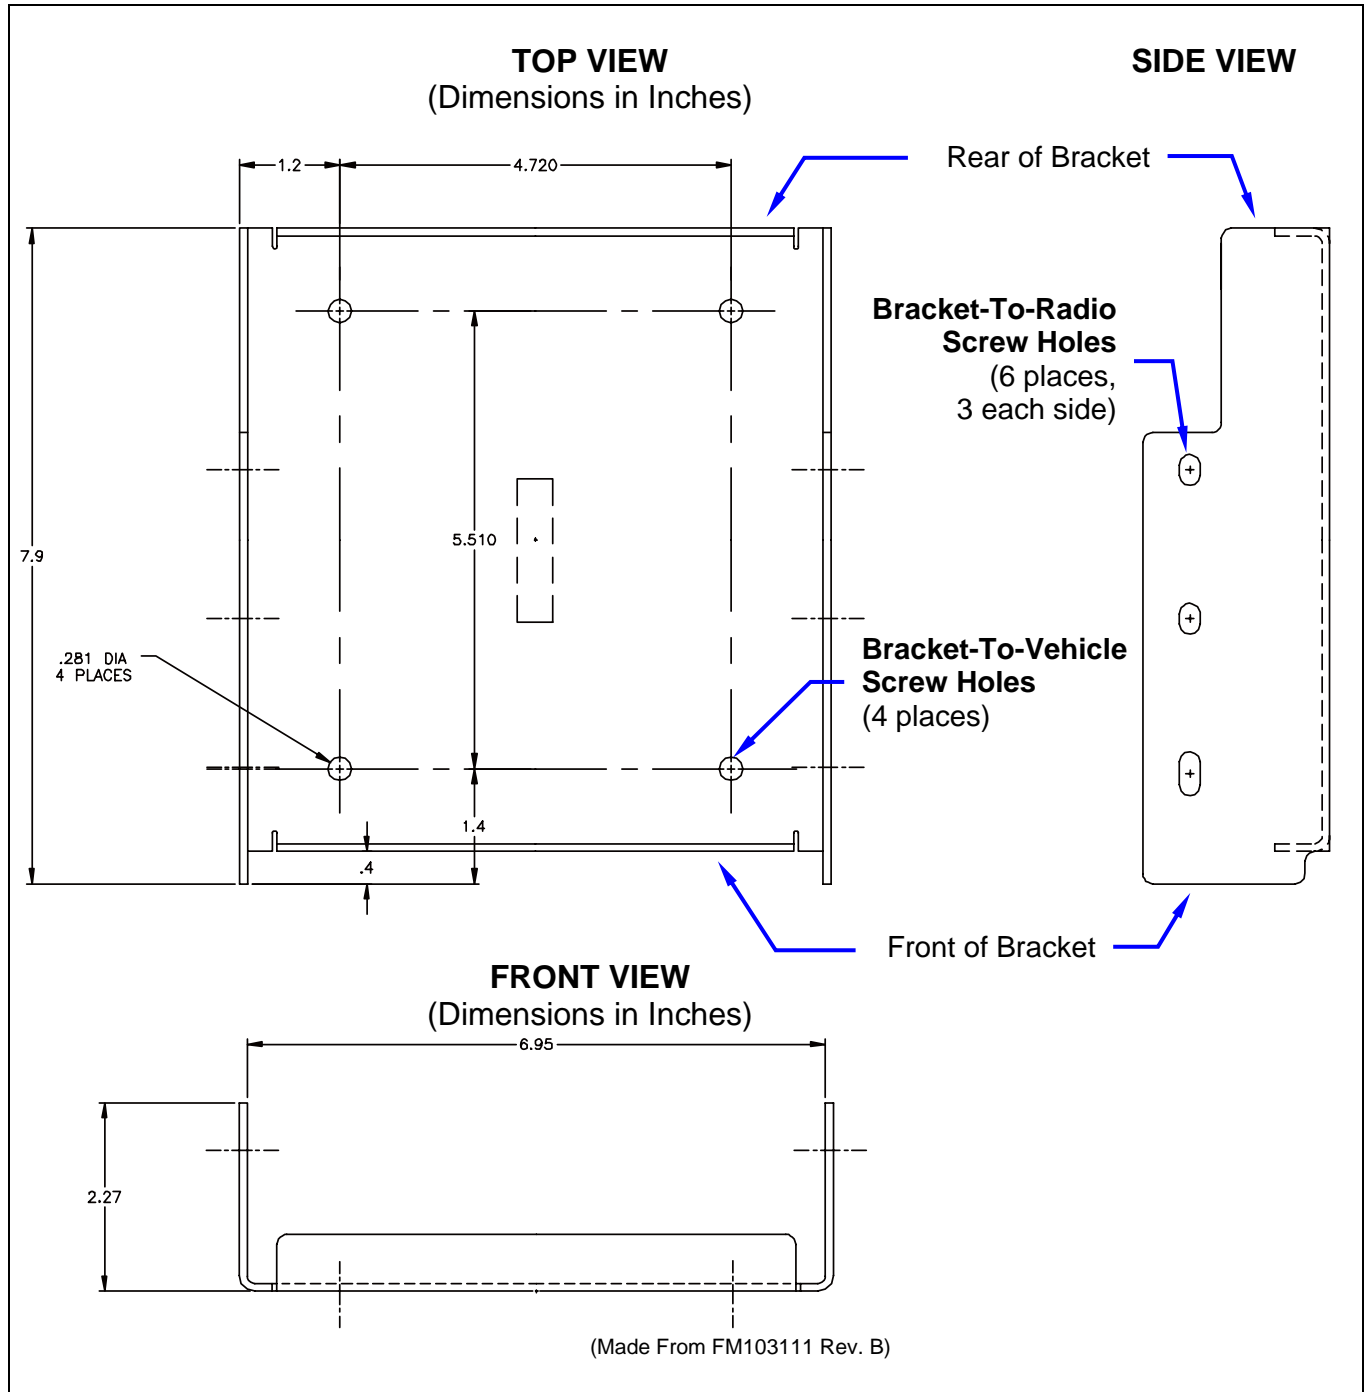

Figure 8-3: Mounting Bracket FM10311V1 Dimensions
- Using the bracket as a template, and/or the dimensional information shown in Figure 8-3, mark and drill at least four (4) mounting holes into the mounting surface as required per the type of hardware used.
As illustrated in Figure 8-3, the bracket is left-to-right symmetrical and the shortest portion of its side rails are at the rear.
1. Using the mounting bracket as a template, and/or the dimensional information shown in Figure 8-3, mark and drill four (4) mounting holes into the mounting surface as required per the type of hardware used. When the radio is installed in the bracket, it will extend approximately one (1) inch past the front edge bracket, and at the rear, it will extend approximately ½-inch past the rear edge of the bracket. This distance at the rear does not include space required for cable connections at the rear of the radio. As previously stated, a clearance of least 4 inches (approximately 10 centimeters) at the rear of the radio is recommended.